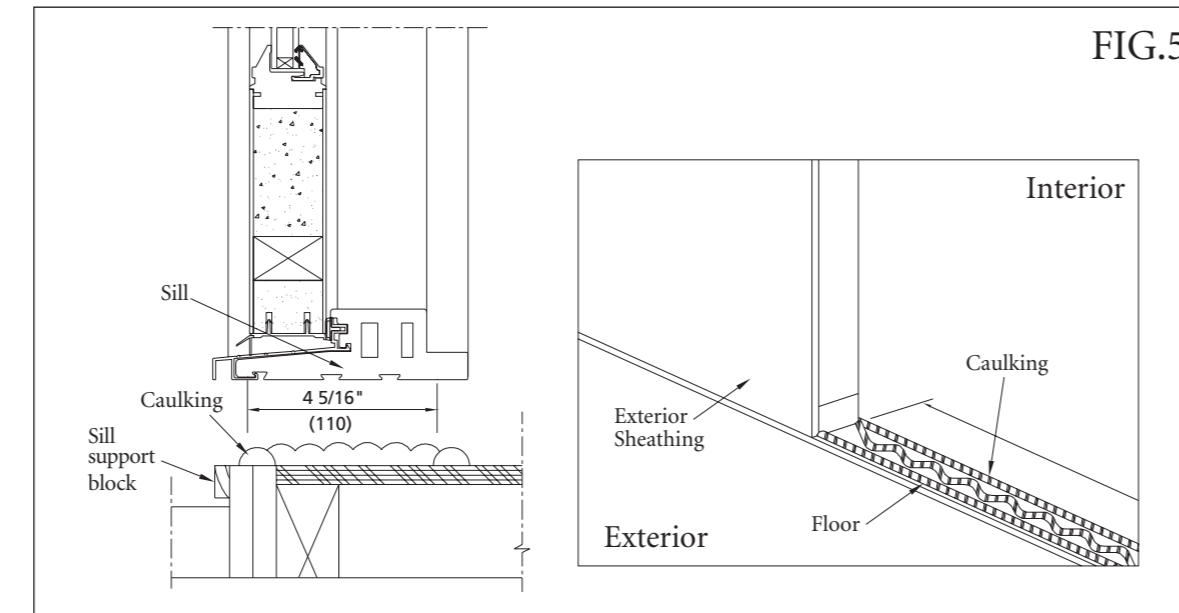

FIG.5
- Apply sufficient amount of sealant along the entire length of the sub floor and 6" up each side of jambs. (See Fig.5)